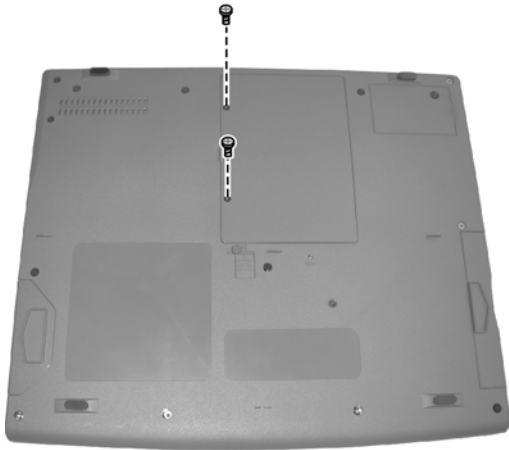

Figure 2-2
2. Remove two screws locking the CPU compartment cover, and then lift the cover up. (figure 2-2)